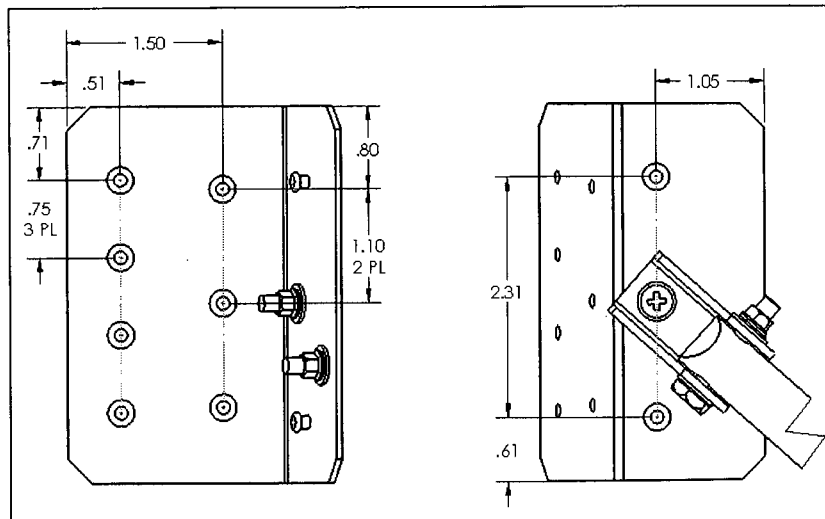

Figure 5.12: Angle Rivet Locations
5.27 Locate two Angles (F/N 22) and corresponding Spacers (F/N 29) as shown and drill rivet locations and cleco in place, as shown in Figure 5.12.